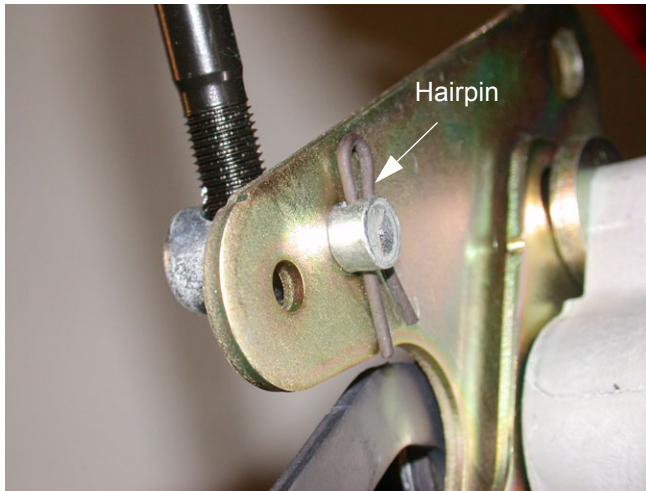

Figure 9.7
- 9.7. Remove the hairpin securing the lap bar control rod to the transmission return assembly. See Figure 9.7.